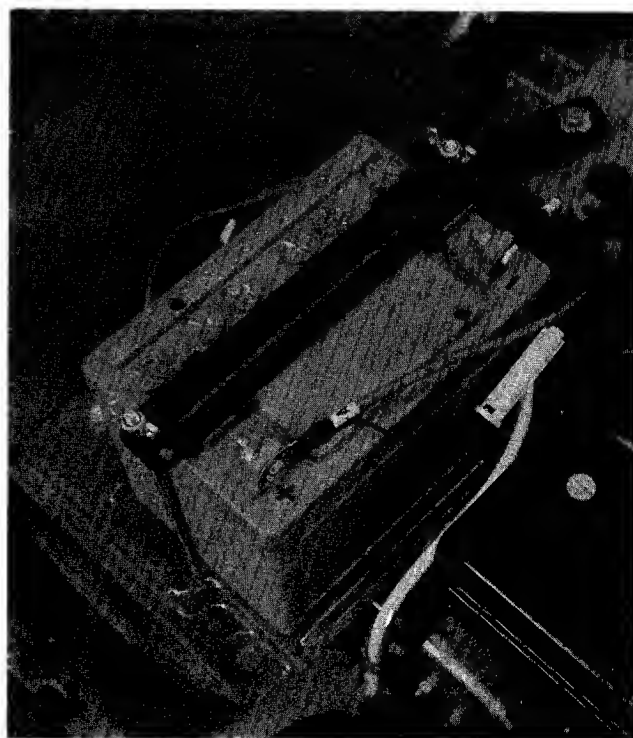

Figure 11
6. Assemble the cable marked (+) to the Positive terminal of the battery with the 1/4 inch bolt, lockwasher and nut. (See figure 11.)
7. Assemble the cable marked (-) to the Negative terminal with the other 1/4" bolt, lockwasher and nut. (See figure 11.)